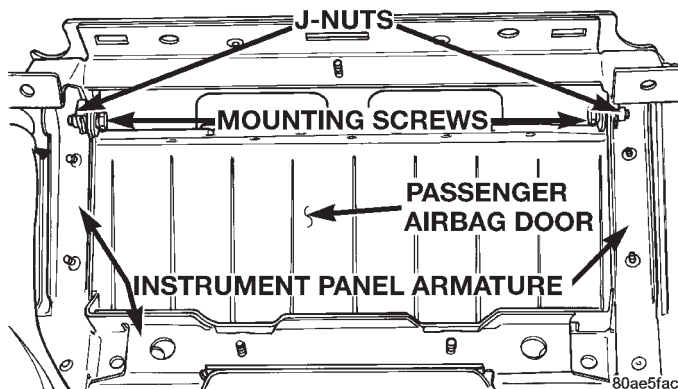

Fig. 14 Passenger Side Airbag Door Remove/Install
(4) Remove the grab handle bezel from the instrument panel. Refer to **Instrument Panel Grab Handle Bezel** in the Removal and Installation section of Group 8E - Instrument Panel Systems for the procedures.
(5) Remove the five screws that secure the passenger side airbag door lower flange to the instrument panel above the glove box opening.
(6) Remove the two screws that secure the ends of the passenger side airbag door bracket to the instrument panel armature (Fig. 14).